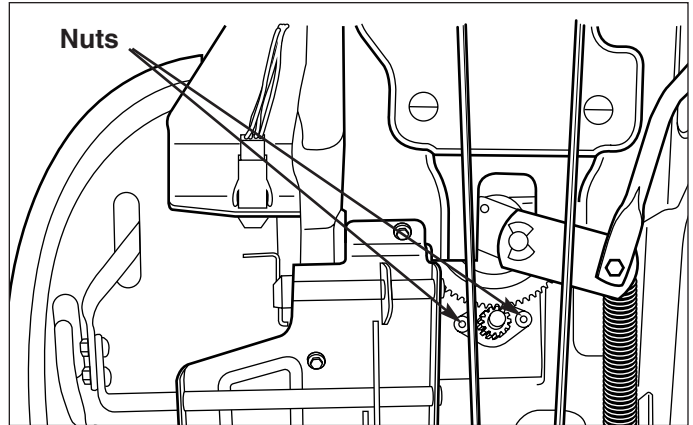

Figure 30. Steering Gear Adjustment
1. See Figure 30. Locate the steering gear assembly on the underside of the tractor. Loosen the two nuts and adjust the bracket so the gear teeth are closely meshed.